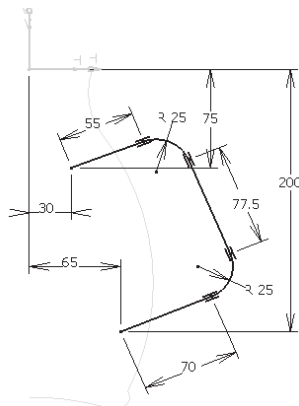

Figure 10-57 The guide for the swept surface
- f. Draw the sketch to create the sweep profile, refer to Figures 10-57 and 10-58.
2. Draw the profile of the guides, as shown in Figure 10-57.